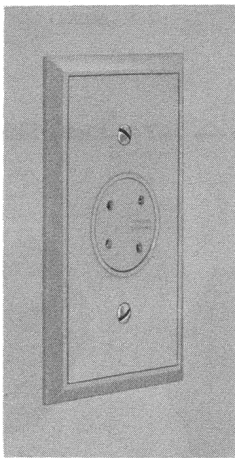

Fig. 19 — 550A Jack, Mounted
2.19 The 550A jack (Fig. 19) consists of a 548A jack, 43A bracket and faceplate. Mounting hardware is furnished and additional faceplates may be ordered (Table B). Latest production 550A jacks are furnished with 43B brackets instead of the 43A.